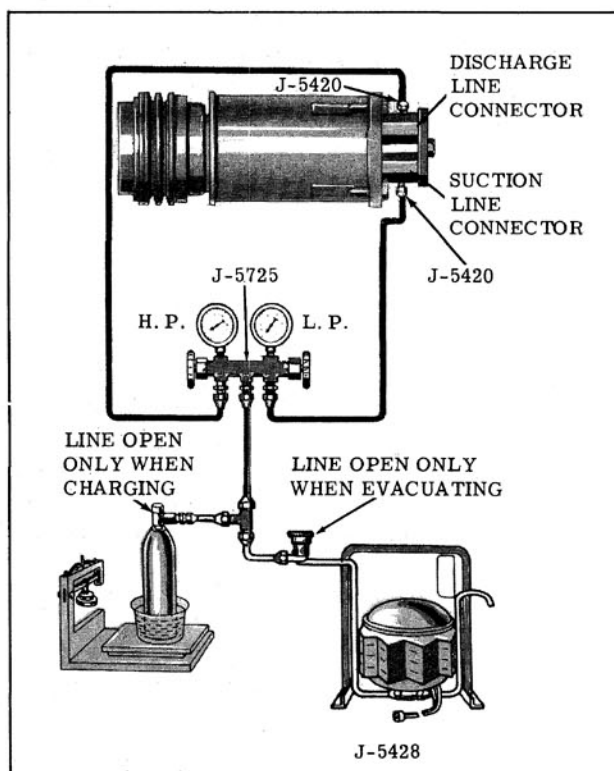

Fig. 14-86 Evacuating the System
1. Connect the Gauge Set J-5725, vacuum pump and refrigerant charging drum as shown in Fig. 14-86. Use J-5420 Schrader Valve adapters to connect gauge lines to suction and discharge Schrader valve fittings at the compressor.